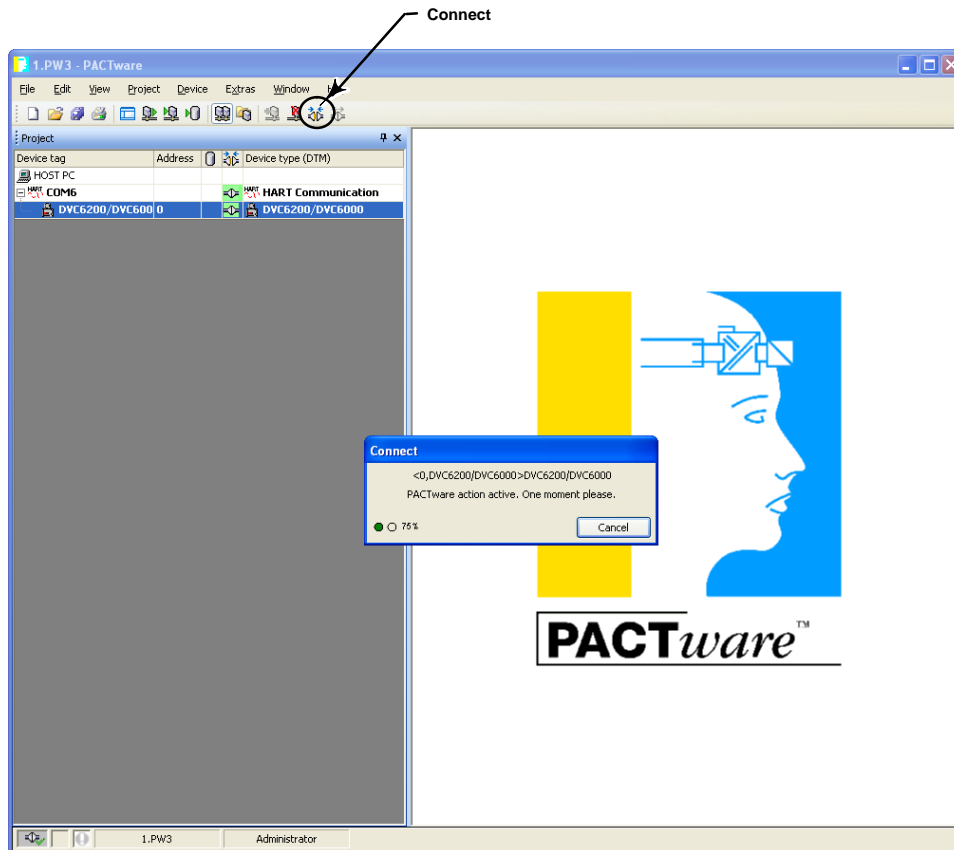

Figure 5-5. Connect the DeviceDTM
**Step 5:** With the DeviceDTM highlighted, select Connect as shown in figure 5-5.